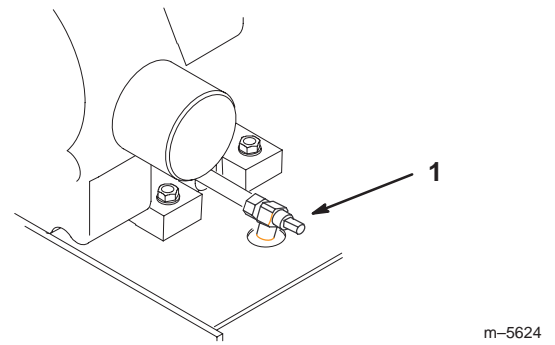

Figure 37
3. Place a pan below the oil drain. Use either a flat screw driver, 3/8 inch or 10 mm wrench to open valve (Fig. 37).
4. Rotate valve end clockwise to close valve. Rotate valve end counterclockwise to open valve (Fig. 37).